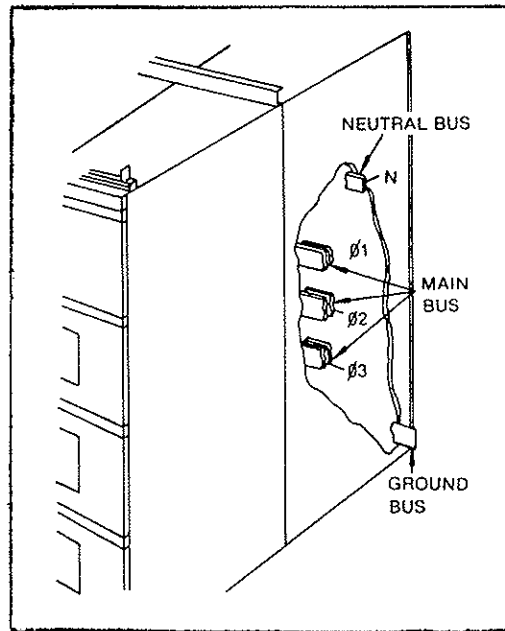

FIG III-2 Typical location of buses at a shipping split
- D. COMPLETE THE ELECTRICAL INTERCONNECTIONS - After completing the mechanical connections between the several sections of equipment, the electrical interconnections should be completed. This includes the installation of the main bus bars, the neutral bus splice, the ground bus splice in addition to the control and metering circuits. Figure III-2 illustrates the general location of the buses that must be spliced across the shipping splits. Electrical clearances are defined in Table A-2 in the Appendix.